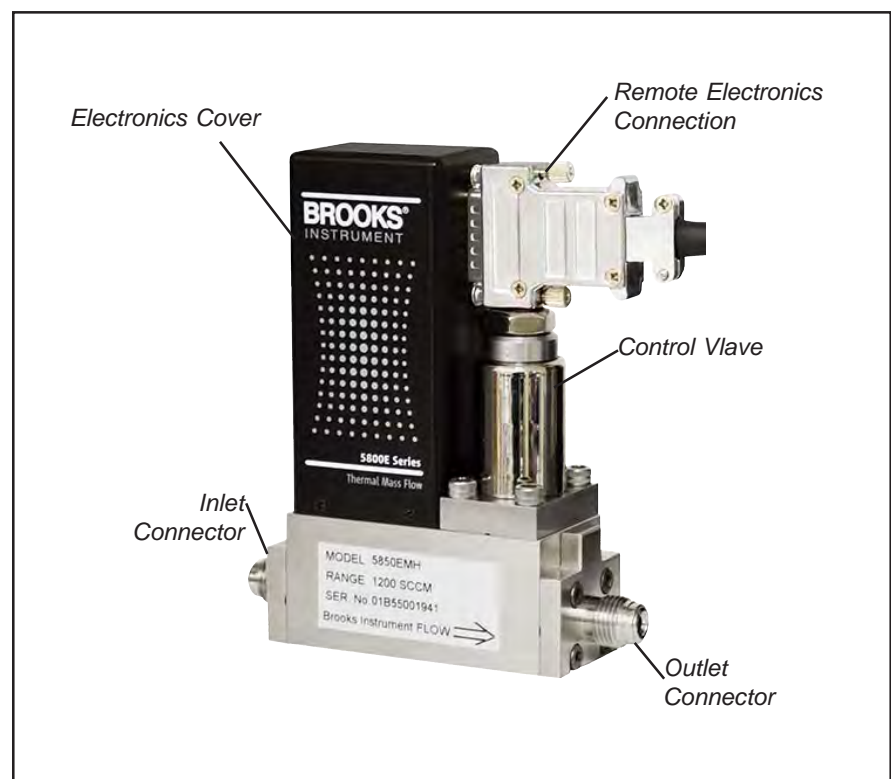
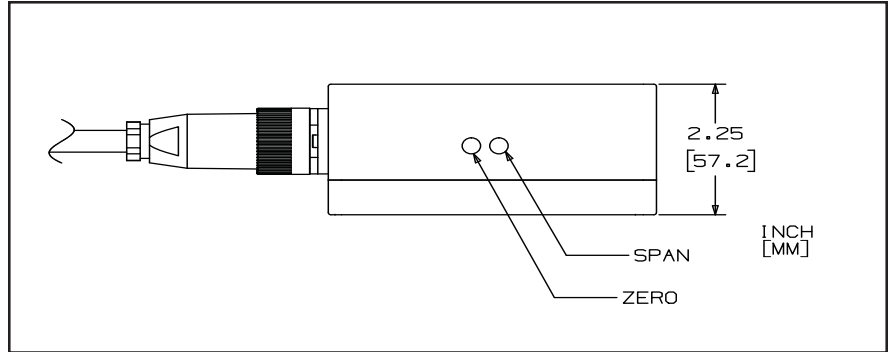
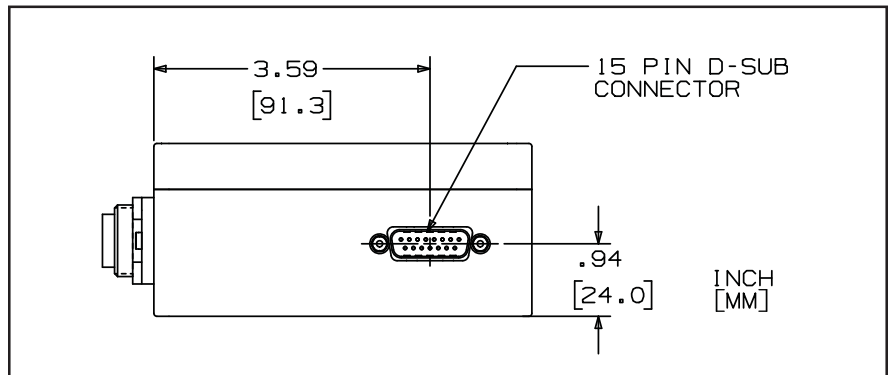
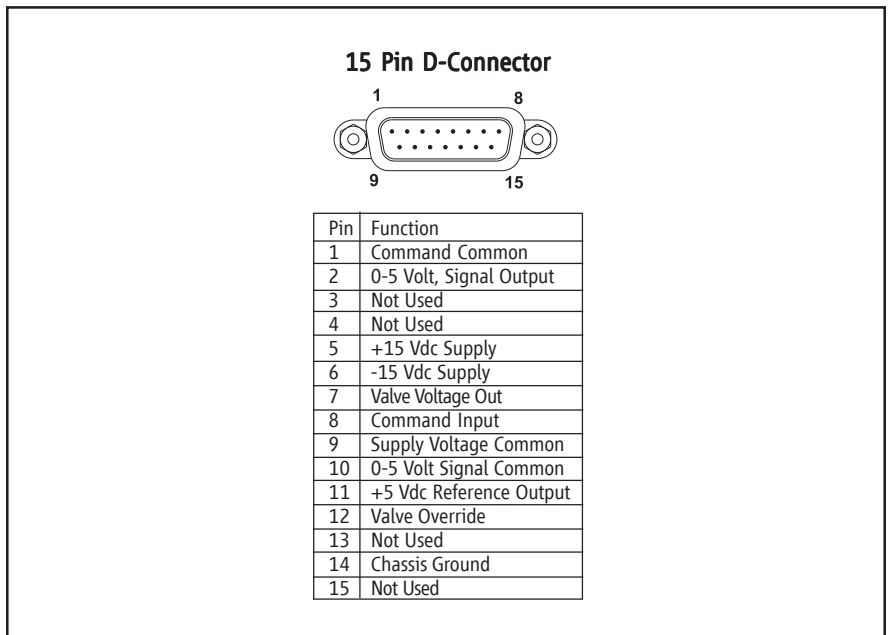

Figure 3-1 Model 585xEMH Controller Components
Figure 3-2 Externally Accessible Adjustments at Remote Electronics Box
Figure 3-3 External 15-Pin D-Sub Connector at Remote Electronics
Figure 3-4 15-Pin D-Connector Shielded Cable Hookup Diagram
To insure proper operation, the Model 585xEMH must be connected per Figure 3-4. As a minimum, the following connections must be made:
Figure 3-1 shows the locations of the Model 585xEMH controller connections. Figure 3-2 identifies the externally accessible adjustment potentiometers located on the remote electronics box on the side opposite the 15-pin D sub connector. Figure 3-3 shows the 15 pin D-sub connector. Figure 3-4 identifies the pin out diagram for the 15 pin D-sub connector.
A precision power supply provides a constant power heat input (P) at the heater which is located at the midpoint of the sensor tube. Refer to Figure 3-3. At zero, or no flow conditions, the heat reaching each temperature sensor is equal. The temperatures T1 and T2, therefore, are equal. When gas flows through the sensor tube, the upstream sensor is cooled and the downstream sensor is heated which produces a temperature difference. The temperature difference T2-T1 is directly proportional to the gas mass flow. The equation is:
- DT = Temperature difference T2 - T1 (K)
All Model 585xEMH instruments are factory calibrated for optimum performance. The only potentiometer recommended for field adjustment is the Zero. Reference Figure 3-2 to access the Zero Potentiometer adjustment screw. N. B. We recommend removing the cover to ensure you are accessing the correct potentiometer. The Span Adjustment is also accessible by removing the plug on the remote electronics box adjacent to the Zero Potentiometer; however, its adjustment is not recommended as described below.
a. Once zero differential pressure is established and verified, check the flow output signal using a suitable voltmeter. If it differs from the factory setting, adjust it by removing the lower pot hole plug (refer to Figure 3-2) which is located closest to the 7-pin circular connector on the remote electronics module. Adjust the zero potentiometer until the desired output signal is within ± 10 mV of zero on the output of the device.